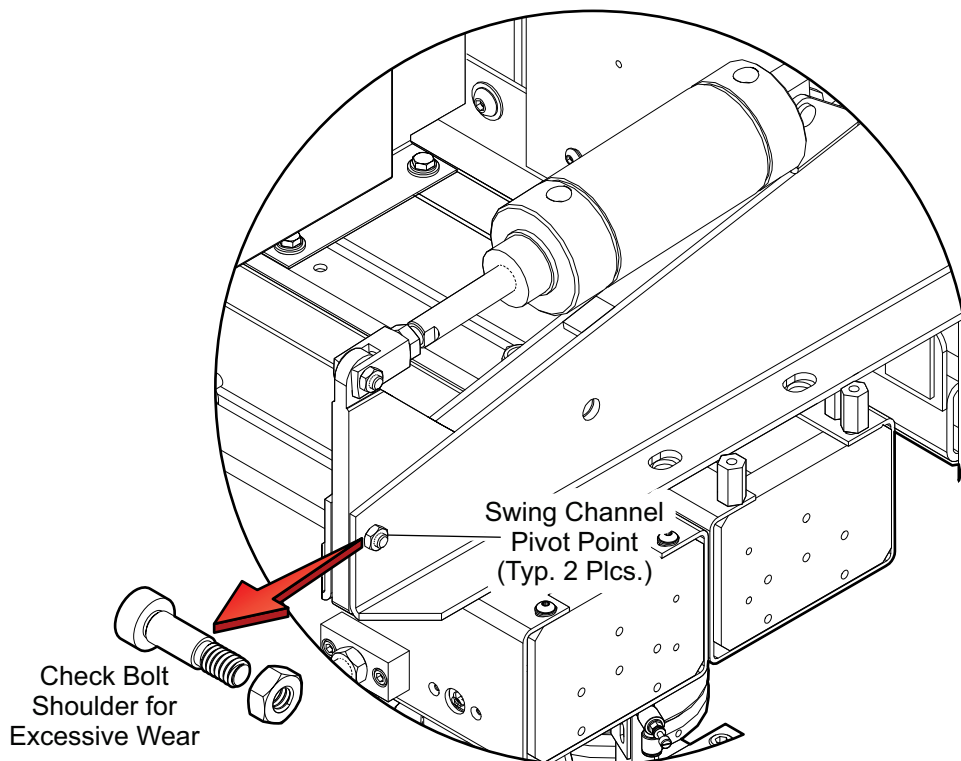

Figure 6-1: Swing Channel Pivot Point Shoulder Bolts
7. Check the shoulder bolts for the swing channel pivot points (see Figure 6-1: Swing Channel Pivot Point Shoulder Bolts) for excessive wear that will warrant replacement.